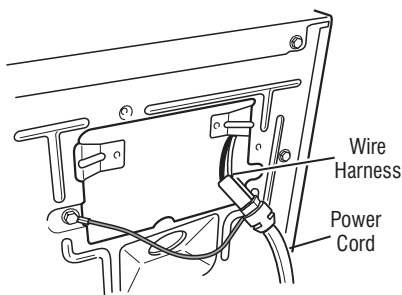
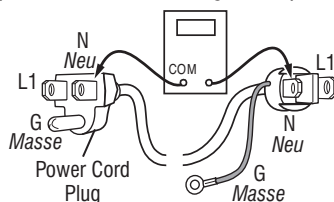

Figure 5 - Power cord-to-wire harness connection for gas dryer.
Figure 6 - Power cord terminals, gas dryer.
3. Check that the power cord is firmly connected to the dryer's wire harness. See figure 5.
5. With an ohmmeter, check for continuity between the neutral (N) terminal of the plug and P8-3 (white wire) on the CCU. The left-hand side of figure 6 shows the position of the neutral terminal (N) on the power cord plug. Also see figure 2, page 11.
- If there is no continuity, disconnect the white wire of the main harness from the power cord at the location illustrated in figure 5. Test the continuity of the power cord neutral wire as illustrated in figure 6. If an open circuit is found, replace the power cord. Otherwise, go to step 6.
- If there is no continuity, check the continuity of the power cord in a similar way to that illustrated in figure 6, but for power cord's L1 wire.